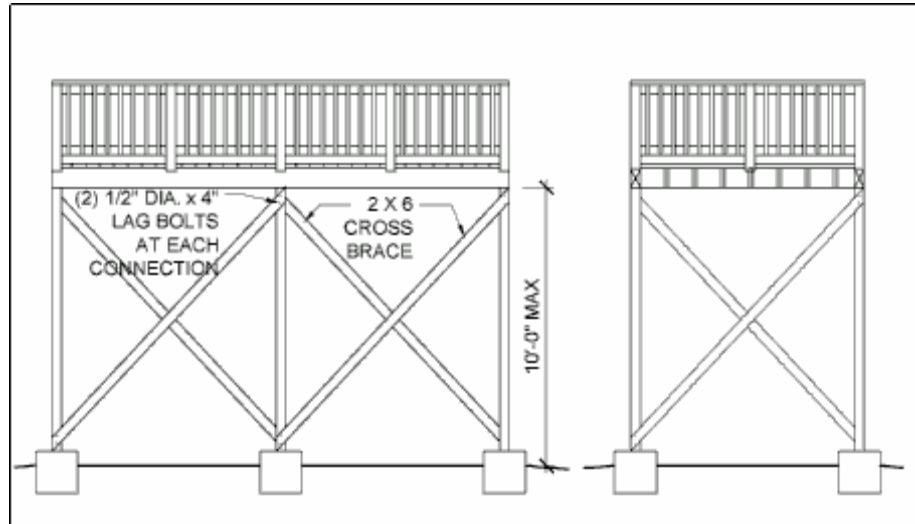
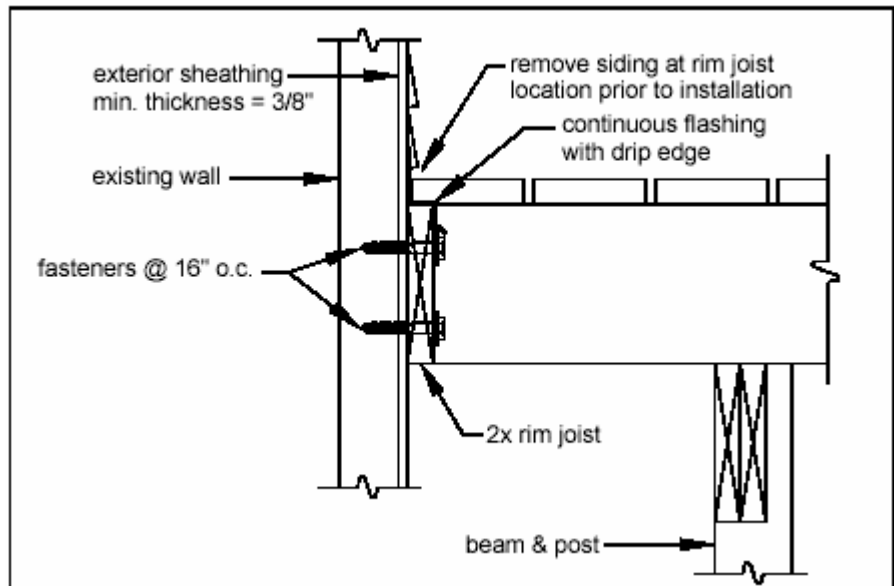

Figure 14 - Diagonal Bracing Requirements
Figure 15 - Attachment to House Lateral Support
8. See Figures 15 to 34 for bracing, connection, built-up beam, footing, guardrail, and stairway details.
**Bracing:** Provide diagonal cross bracing as shown in Figure 14. Bracing shall be located between posts parallel to beams and bolted by a minimum of two 1/2" diameter by 6" lag bolts or two 1/2" thru-bolts at each end to the posts as shown. Diagonal bracing shall also be located perpendicular to beams, and in such cases, bracing shall be bolted to the post and joist above the post location. If the deck is free-standing, diagonal bracing must be provided on all the posts and in both directions.
Lateral support is provided for one-half of the deck by the attachment of the deck rim joist to the existing house as shown in Figure 15 (the beams and posts furthest from the house still require the diagonal bracing as shown in Figure 14). The existing exterior wall must have sheathing consisting of structural wood panels with a minimum thickness of 3/8", and the fasteners shall attach to an existing band board or wall stud. The deck rim joist may also attach to a concrete wall, but not to a brick veneer.